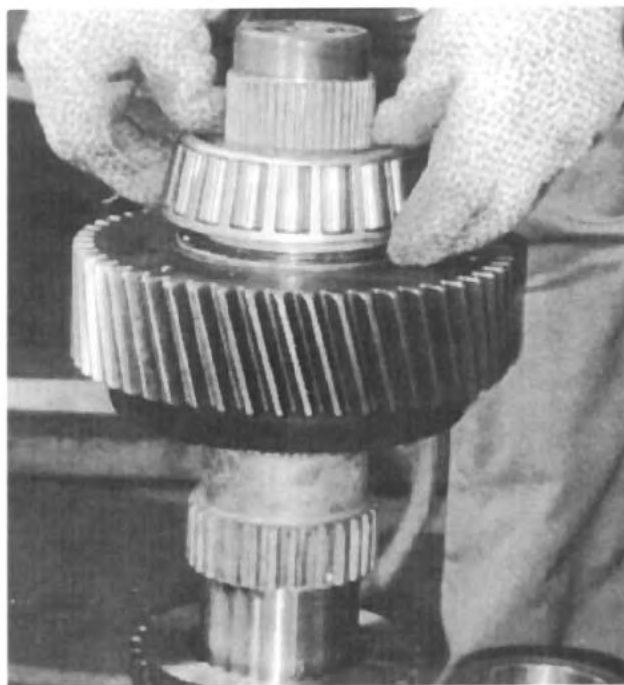

Fig. 48
9. After the gear float has been set correctly, remove special tool # 866 749 and install the rear output shaft spacer, bearing cone, special tool # 866 751 and lock nut. See Fig. 48.